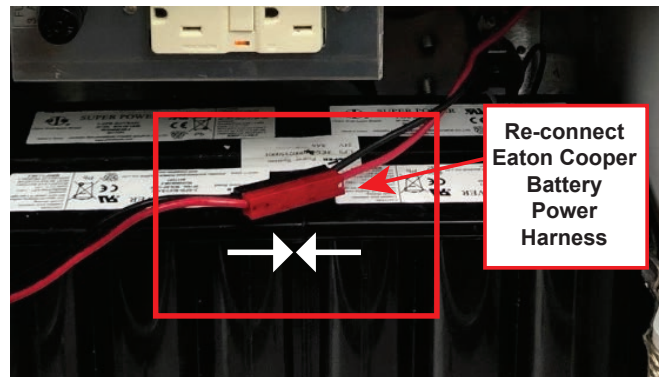

Figure 40 Re-connect Eaton Cooper Battery Power Harness
2. Re-connect the Eaton Cooper Battery Power harness (Figure 40).